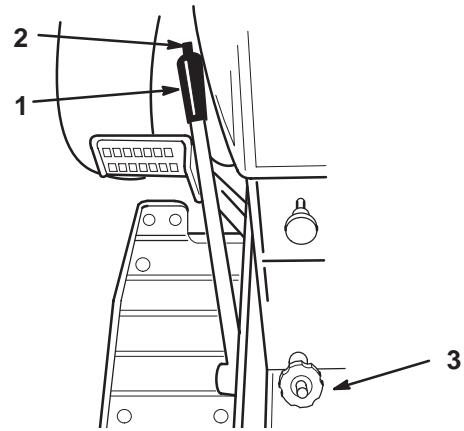

Figure 17
The attachment lift lever is used to raise and lower various attachments (Fig. 17).
The Dial-A-Height control is used to limit the downward travel of attachments other than mowers (Fig. 17). For example, use the Dial-a-Height to hold the blade or snowblower above a gravel drive to prevent picking up stones or hold the tiller at a selected depth. For mowing, turn the Dial-a-Height fully counterclockwise until the knob contacts the plastic thread cap, so the mower can move through its full range of travel. Use the mower's height control to set cutting height. To use the Dial-a-height:
1. Raise the attachment lift lever; refer to Raising Attachments. In the raised position the Dial-A-Height knob (Fig. 17) can be rotated to change the stop location. Turn right to raise and left to lower the height of the attachment.